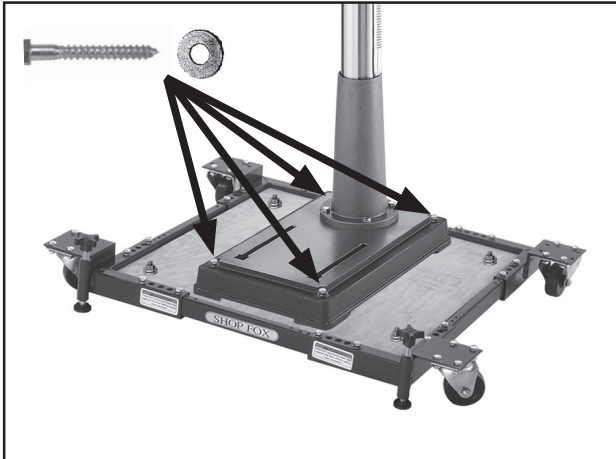

Figure 18. Drill press mounted on mobile base, using a base plate for support.
If you must use a mobile base, ALWAYS mount your drill press to a base plate inside of the mobile base, as shown in **Figure 18**.
9. Mount the drill press to the base plate with lag bolts and flat washers (**Figure 18**); or with through bolts, flat washers, and hex nuts.